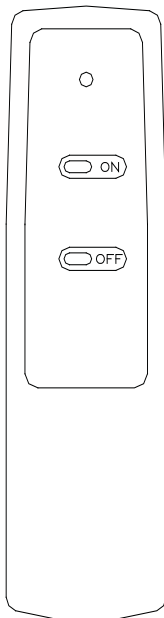

FIGURE 3
5. Press the ON button on the transmitter (FIGURE 3). The indicators will flash rapidly and then turn off.